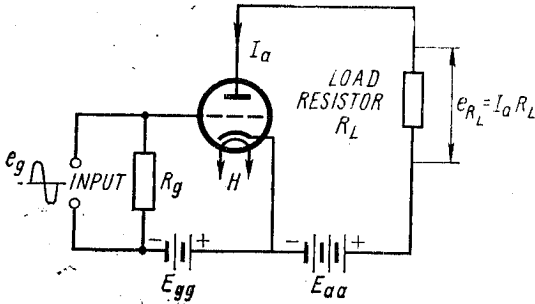

Fig. 17. Basic triode amplifier circuit and notations
1. The simple triode amplifier is illustrated in Fig. 17. Let us see what happens under dynamic conditions when
2. The bias, signal voltage and plate-supply voltage E_{aa} in our example in Fig. 17 have been so chosen that the tube does not reach plate-current cut-off, even for the most negative value of the grid voltage. Plate current will, therefore, flow at all times during the ac input signal cycle.¹ As a matter of fact, this is a necessary condition for all voltage amplifiers to obtain linear, distortionless amplification.
7. Note further that in Fig. 17 the bottom of the load resistor is more negative than the top or battery-connected end.² The load voltage, thus, is in opposition to the plate supply voltage, and since it is connected in series with it, subtracts from it. The greater the plate current, the greater is the load voltage and, hence, the less plate supply voltage is left over to reach the plate of the tube. The total instantaneous voltage on the plate identified by e_a therefore, is the difference between the plate-supply voltage, E_{aa} , and the voltage across the load, e_{RL} , expressed mathematically, total instantaneous plate voltage